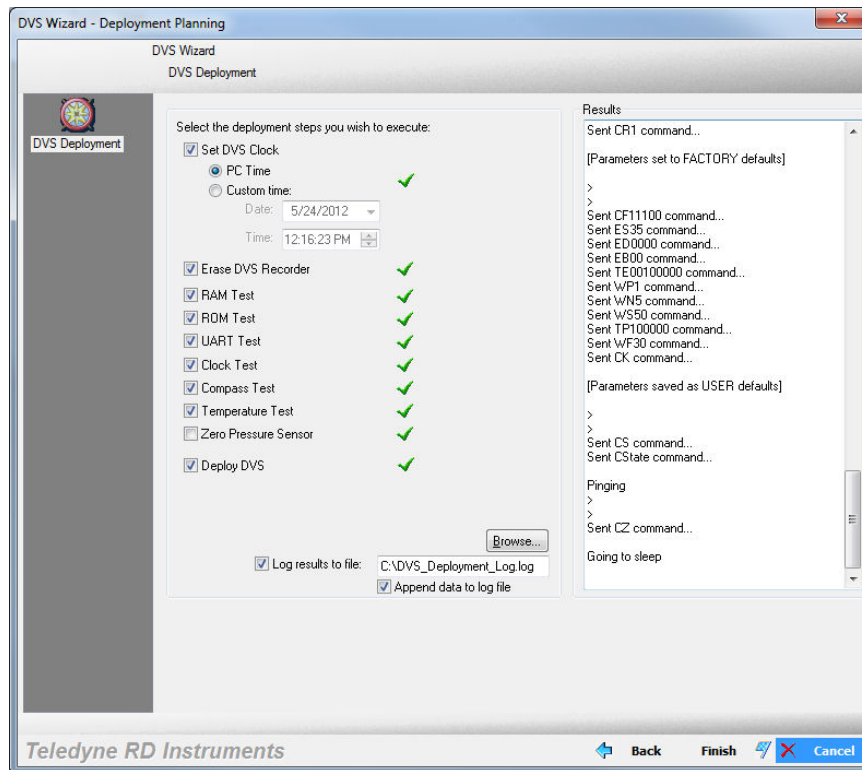

Figure 17. DVS Wizard – Deployment
15. Any step beyond this point requires communication with a DVS system. If a DVS is not available, you can save this configuration for later use by un-checking the **Continue to deployment** check box and clicking **Next**. Otherwise, you will be prompted to save the deployment file generated here, and will proceed to configuring the DVS for deployment (see DVS Deployments and Figure 17).